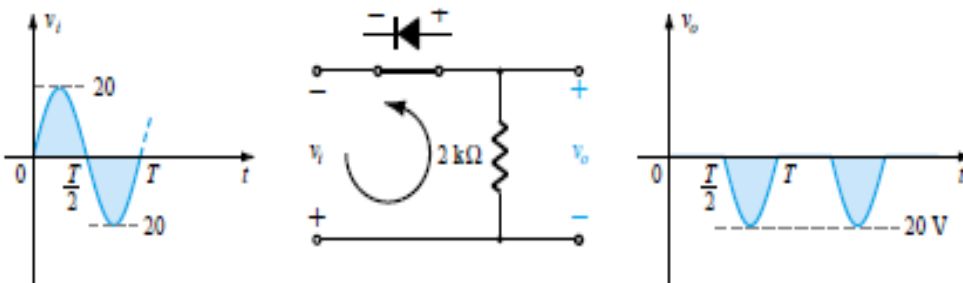

Figure 2.49 Resulting v_o for the circuit of Example 2.18.
- (a) In this situation the diode will conduct during the negative part of the input as shown in Fig. 2.49, and v_o will appear as shown in the same figure. For the full period, the dc level is